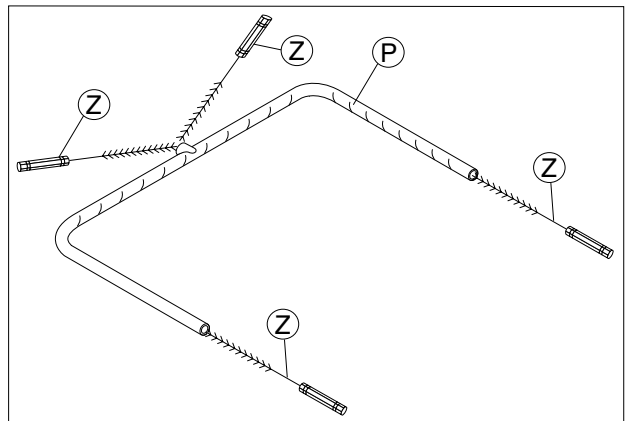

Figure 20
- Clean all parts using a water spray. In particular, for jet "P" use warm soapy water and a soft brush "Z" if necessary (Figure 20). Do not use sharp implements to clean nozzle holes.